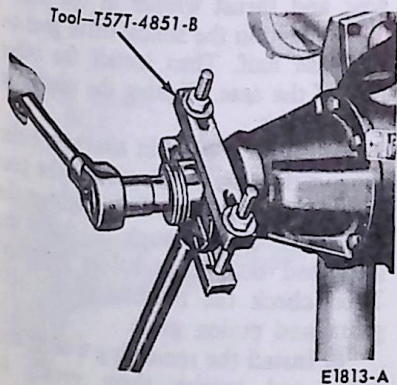

FIG. 11 Removing U-Joint Flange
8. Remove and discard the cotter pin from the U-joint flange nut. Then remove the nut with the tools shown in Fig. 11.
7. Remove and discard the cotter pin from the U-joint flange nut. Then remove the nut with the tools shown in Fig. 11.